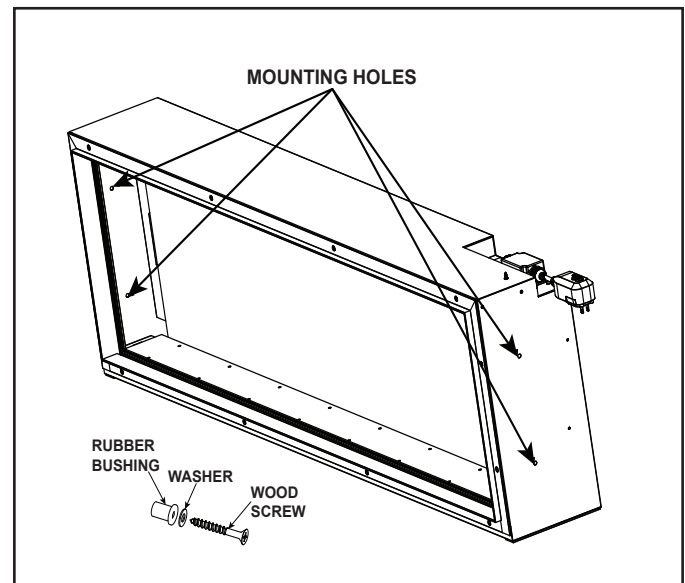

Figure 4.7
4. With the appliance in place, leveled and plum, attach it to the framing using 4 sets of the provided rubber bushings, washers, and wood screws through the appliance mounting holes. See Figure 4.7.